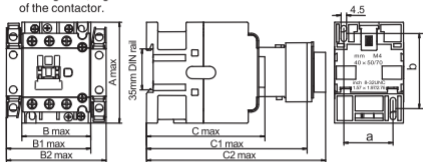
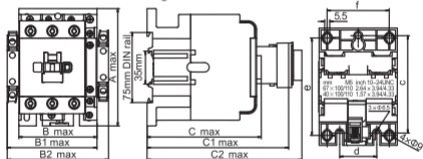

Figure 5 HDC3-06 ~ 38
Figure 6 HDC3-40 ~ 95
- See Figure 5, Figure 6 and Table 2 for the overall and installation dimensions of the contactor.
The contactor can be equipped with an independent auxiliary contact module with the specification and NO and NC combination, as shown in Figure 5. The installation method of HFD6 is same as the air delayed head. The installation and disassembly methods of HFC6 are as shown in Figures 10 and 11.